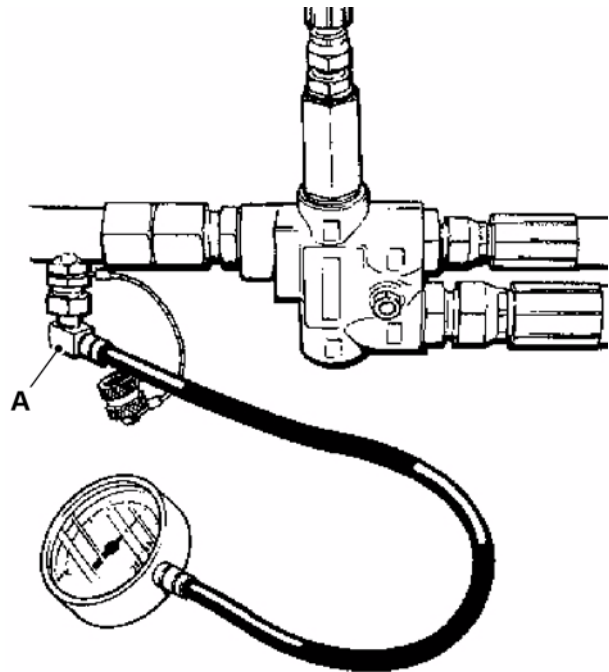

Fig 13.
- 1 Park the machine on level ground, engage the parking brake and set the transmission to neutral. Lower the attachments to the ground. Stop the engine and remove the starter key → Fig 13. \(□ H-15\).